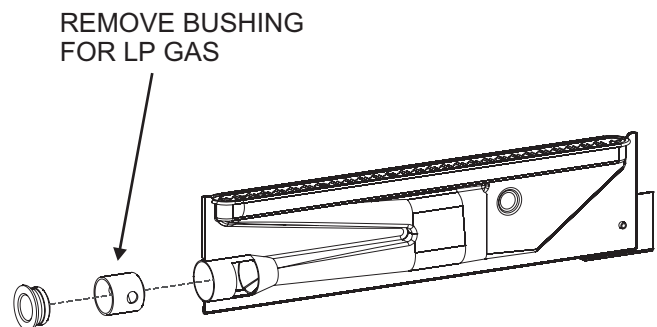

Figure 38
8. Remove front burner (one (1) screw).
10. Remove natural gas front burner bushing from throat (Venturi) of front burner. See Figure 38.
11. Replace front burner with one (1) screw from Step 8.
12. Remove rear burner (one (1) screw).
14. Replace rear burner with one (1) screw from Step 12.
16. Install log plate into fireplace with twelve (12) screws from Step 7.
18. Close front door by securing four (4) door latches.